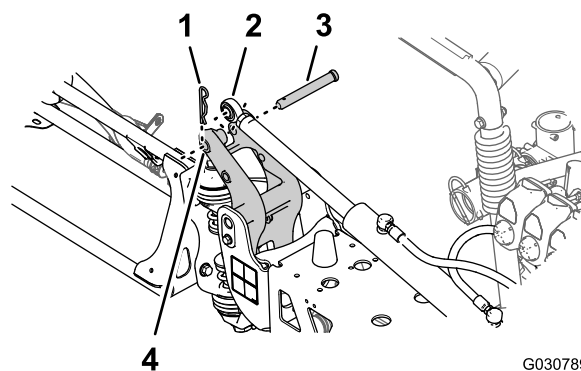

Figure 101
6. Align the rod end of the lift cylinder with the hole 25 mm (1 inch) in the horn of the pivot fitting (Figure 101).
7. Secure the lift cylinder to the pivot fitting with the clevis pin and hairpin (Figure 101) that you removed in step 3 of Removing the Lift Cylinder (page 27).